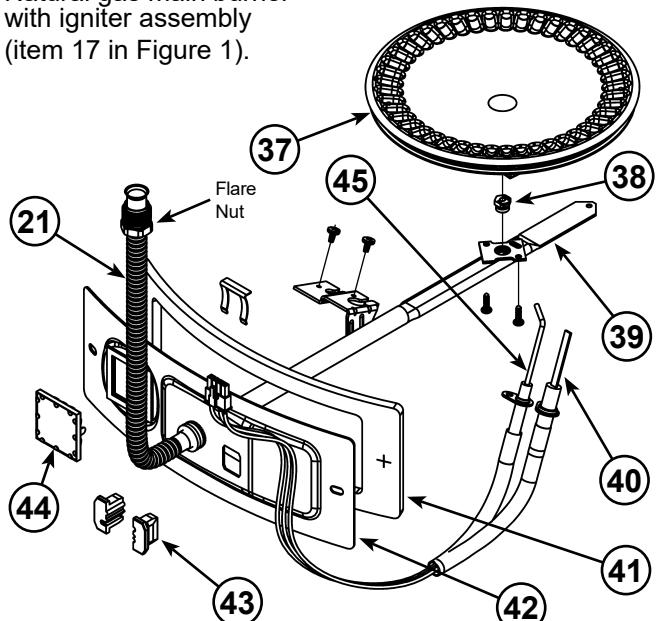
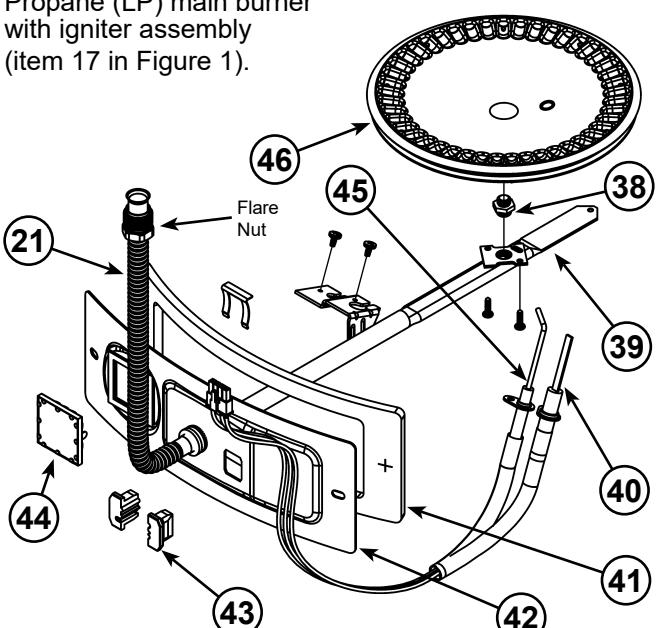
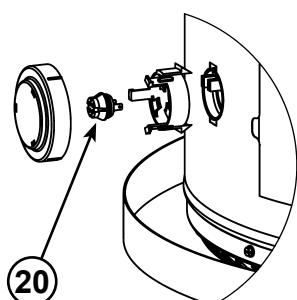
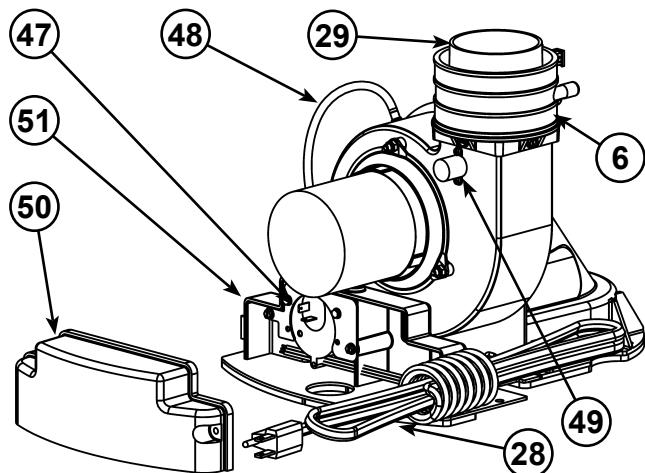

Figure 3.
Figure 4.
Figure 5.
Figure 6.
| 1 Vent Termination Elbow with Rodent Screen | 17 Manifold Door Assembly (behind outer door) (see Figure 3 (NG) or Figure 4 (LP)) | 36 *Thermal Expansion Tank (required for all closed systems) |
| 2 *Vent Pipe | 18 *Floor Drain | 37 Aluminum Burner (see Figure 3) |
| 3 *Vent Pipe Coupling (if required) | 19 *Metal Drain Pan | 38 Gas Orifice (see Figure 3) |
| 4 CPVC Vent Pipe (5 ft. supplied) | 20 Flammable Vapor Sensor (under cover) (see Figure 5) | 39 Gas Manifold (see Figure 3) |
| 5 *CPVC Vent Pipe Elbow (long radius) | 21 Flexible Manifold Tube (see Figure 3) | 40 Hot-Surface Igniter (see Figure 3) |
| 6 Gear Clamp (see Figure 6) | 22 *Sediment Trap | 41 Manifold Door Gasket (see Figure 3) |
| 7 T&P Valve | 23 *Ground Joint Union (gas connection) | 42 Manifold Door (see Figure 3) |
| 8 **Combo Heating System Supply Outlet (Optional) | 24 *Main Manual Gas Shut-off Valve | 43 Two Piece Grommet With Clip (see Figure 3) |
| 9 Cold-Water Inlet Nipple/Diptube | 25 *Gas Supply* | 44 Viewport (see Figure 3) |
| 10 * Discharge Pipe | 26 Baffle Assembly | 45 Flame Sensor Rod (see Figure 3) |
| 11 Gas Control Valve/THERMOSTAT (Honeywell) | 27 Rating Plate | 46 Stainless Steel Burner (see Figure 4) |
| 12 Gas Valve Electronic Control Module And Cover (Honeywell) | 28 Blower with Power Cord (see Figure 6) | 47 Air Switch (inside box) (see Figure 6) |
| 13 **Combo Heating System Return Inlet (Optional) | 29 *Rubber Coupling (see Figure 6) | 48 Air Tubing (see Figure 6) |
| 14 ***Control Harness | 30 *Inlet Water Shut-off Valve | 49 Blower High Limit Switch (see Figure 6) |
| 15 Drain Valve | 31 *Union (water connection) | 50 Junction Box Cover (see Figure 6) |
| 16 Outer Gas Door | 32 Hot-Water Outlet Nipple | 51 Junction Box (see Figure 6) |
This device is located on the blower (see Figure 6, item 49) and limits the maximum temperature of the blower. If the blower temperature rises above the temperature setting, the switch opens causing the heater to shut down. The switch will auto reset once the temperature drops sufficiently.
This device, located in the junction box, monitors the air pressure produced by the blower. In the event that the exhaust venting becomes blocked or sufficiently restricted, the switch will shut the heater down (see Figure 6, item 47). If the water heater has not gone into a soft lockout condition, the heater will restart after the blockage is removed (see "Resetting The Heater Control").